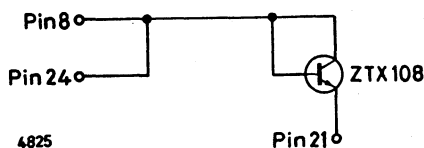

Figure 11.
- (3) If the applied input voltage is too large, the display will be blanked off as an overload indication. If a diode is connected between pins 8, 24 and 21 of the ZNA116E, as shown below in figure 11, the display will flash for overload conditions.